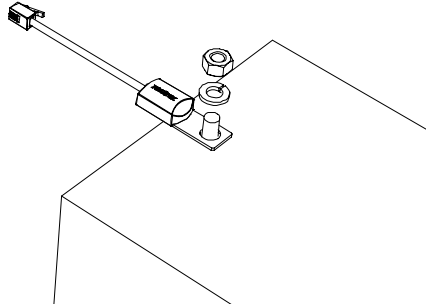

Figure 2-18 Attaching the BTS to a Battery Terminal
3. Connect the ring terminal on the BTS directly to the negative battery terminal (recommended), or use the adhesive backing on the sensor back to attach the sensor to any side of the battery to be monitored. See Figure 2-18.